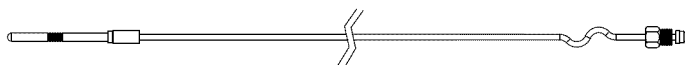

FIGURE 26.
4. Pull the thermocouple from the pilot assembly (Figure 26).
1. At least annually check the base-ring filter (Figure 26) for any dust or debris that may have accumulated on the filter screen. **NOTE:** If the water heater is located in an area that is subjected to lint and dirt, it may be necessary to check the base-ring filter more frequently.